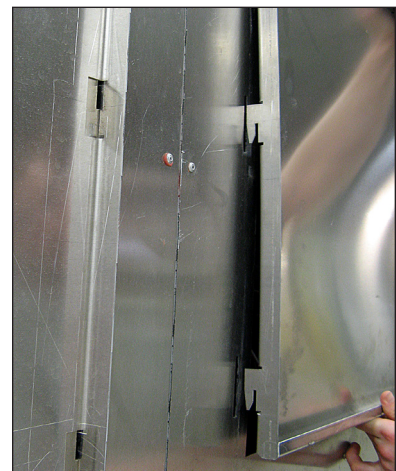

Figure 10: Removing Door
3. Lift the door upward to disengage its tabs from the slots on the display's back sheet. Refer to **Figure 10**.